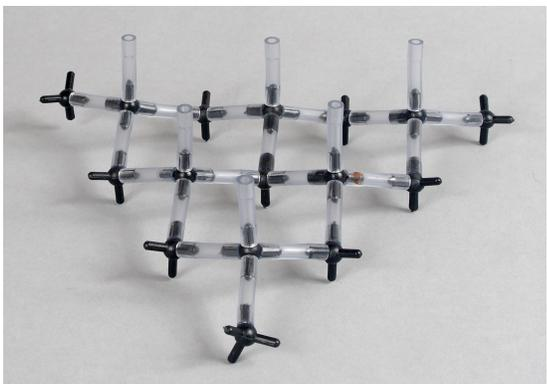

Fig. 10 Layer B with six vertical bonds.
9. Attach six bonds to the six “up” carbons of layer B as Fig. 10 illustrates.